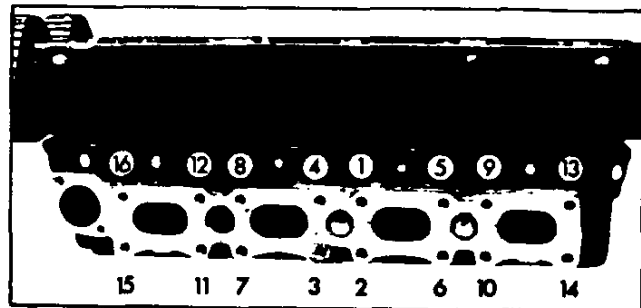

Fig. 21—Exhaust Manifold Bolt Torque Sequence
4. Install water temperature shield and torque all bolts to specifications (fig. 21).